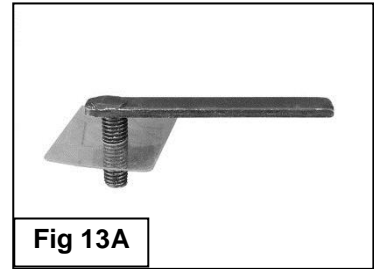
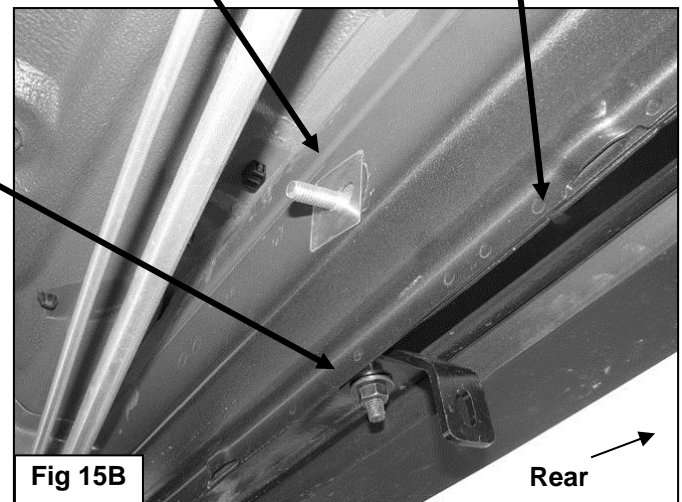

Fig 13A
Fig 15B
12. Move along the side of the vehicle to approximately the center/back of the front door. Locate the single hole in the back of the outer frame channel, **(Figure 15B)**. Remove rubber plug if equipped. Next locate and remove the (2) rubber plugs from the bottom of the outer frame channel. Repeat **Steps 2—5** to install the (2) Bolt Plates and (1) Long Center Lock Plate to the bottom of the frame channel, **(Figures 13B & 14)**.
13. Select (1) 10mm Bolt Plate and (1) 10mm Plastic Retainer, **(Figure 13A)**. Partially thread the Retainer onto the Bolt Plate. Insert the Bolt Plate into the hole in the back of the frame channel, **(Figure 15B)**.
14. Select (1) Center Support Bracket, **(Figure 15A)**. Attach the long end of the Support Bracket to the forward Bolt Plate in the frame channel with (1) 10mm Flat Washer, (1) 10mm Lock Washer and (1) 10mm Hex Nut, **(Figures 15B & 17)**. Select the passenger side Center Bracket, **(Figure 16)**. Attach the Bracket to the Bolt Plate in the back of the frame channel with (1) 10mm Flat Washer, (1) 10mm Lock Washer and (1) 10mm Hex Nut. Bolt the remaining end of the Support Bracket to the front of the Center Bracket with (1) 8mm Hex Bolt, (2) 8mm Flat Washers, (1) 8mm Lock Washer and (1) 8mm Hex Nut, **(Figure 17)**. Do not tighten hardware at this time.
(see Fig 13A)